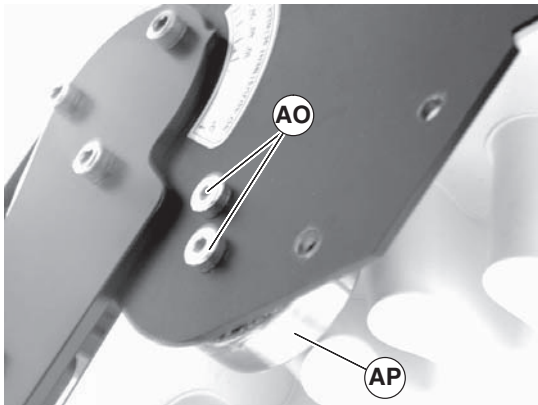

Figure 86
2. Remove screws (Figure 86, item AO) and remove roller bearing (AP).